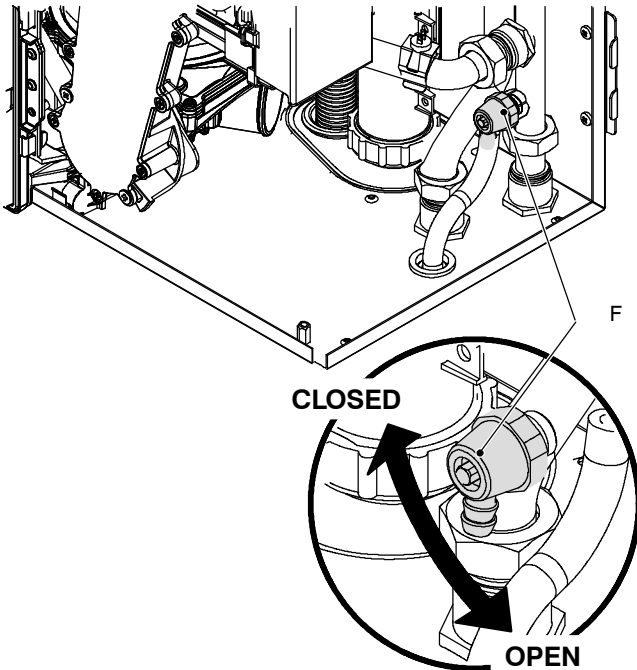

Fig. 2.10
- 3 Open the drain tap *F* (Fig. 2.10) until the boiler is completely emptied.